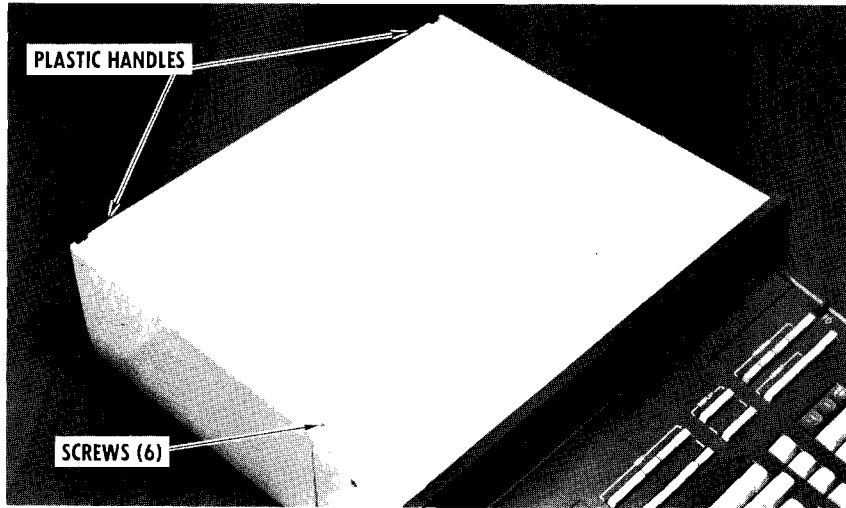

Figure 2.
6. Remove the single screw that retains the two crossed aluminum hold-down brackets (Figure 2). Note the location of the brackets and how they are attached. Remove the brackets.